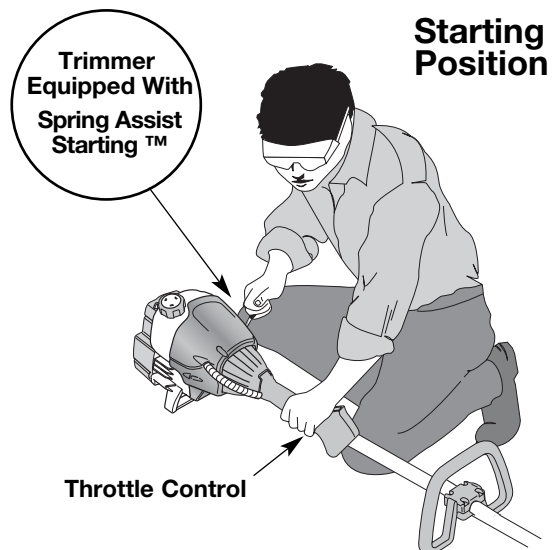

Fig. 11
WARNING: Avoid accidental starting. Make sure you are in the starting position when pulling the starter rope (Fig. 11). To avoid serious injury, the operator and unit must be in a stable position while starting.
4. Crouch in the starting position (Fig. 11), squeeze the throttle control, and pull the starter rope out with a **controlled and steady motion** 5 times.